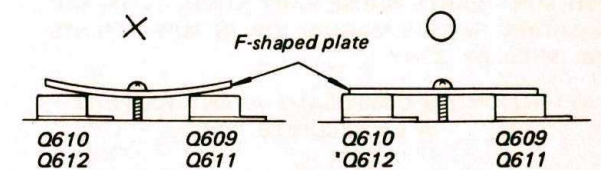

Fig. 4
* Lay the F-shaped plate flat to ensure uniform contact with all 4 transistors (see Fig. 4).